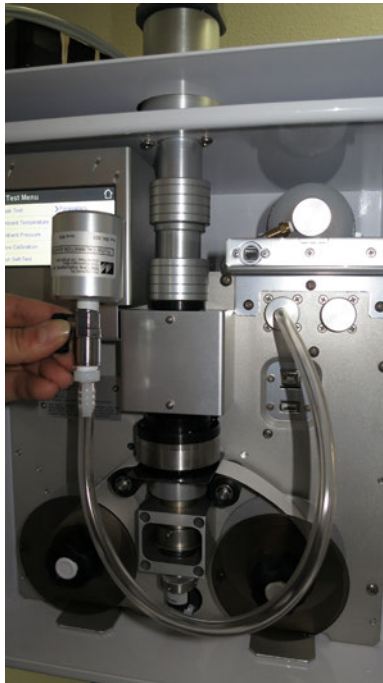

Figure 6-12 Connecting the CTS to the Sheath Air Pre-Filter Inlet
11. Install one end of the 960200 adapter tubing to the sheath air pre-filter inlet (as shown in Figure 6-11) and the other end to the BX-305 fitting (see Figure 6-12).
12. Insert the short adapter of the BX-305 and then install the CTS as shown in Figure 6-12 and then press the grey CONTINUE button to advance to the Sheath Air calibration screen. The pump should start and adjust flow to 3.0 lpm.